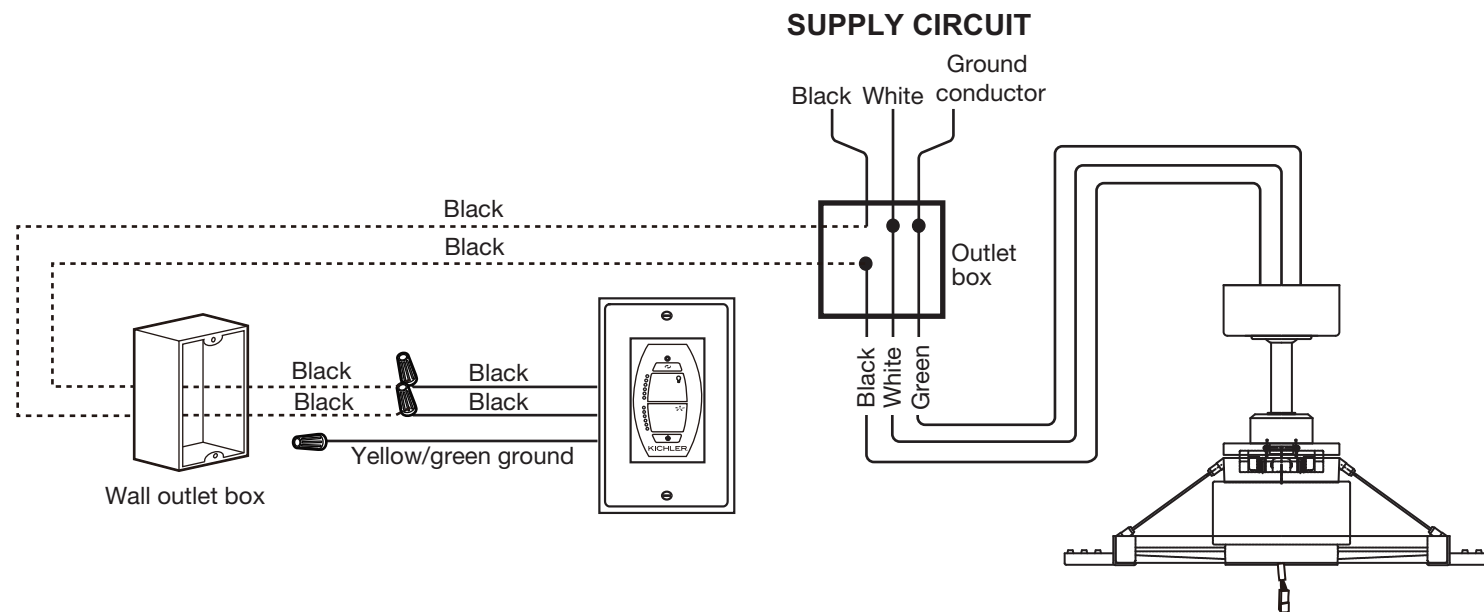

Fig. 13
Make each of the wire connections illustrated in Figure 13. Secure each with the wire nuts provided. (Fig. 13)
Step 1. Black wire from the fan (motor) to the Black wire from the Wall Control's. (Fig. 13)
Step 2. White wire from the fan (motor) to the White (neutral) wire from the Household Supply. (Fig. 13)
Step 3. If your ceiling outlet box has a ground wire (green or bare copper) connect it to the ground wire from the ceiling fan and/or the ceiling mounting bracket. (Fig. 13)
Step 1. Black wire (TO MOTOR L) from the Wall Control to the Black wire from the Wall Outlet Box. (Fig. 13)
Step 2. Black wire (AC IN L) from the Wall Control to the Black wire from the Wall Outlet Box. (Fig. 13)
Step 3. If your wall outlet box has a ground wire (green or bare copper), connect the wall control's yellow/green ground wire to it; otherwise connect the wall control's yellow/green ground wire directly to one of the screws from the wall outlet box. (Fig. 13)